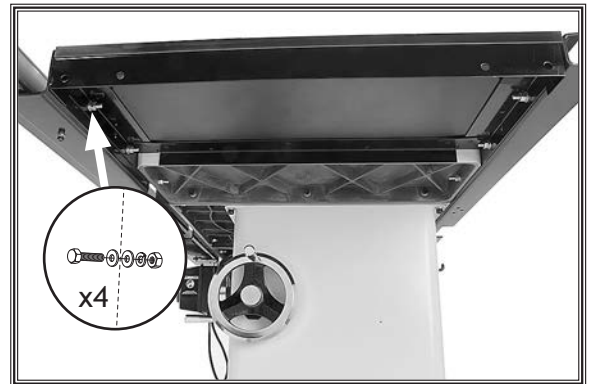

Figure 23. Model W1819 extension table installed.
1. Install the extension table between the front and rear rails with the four M8-1.25 x 40 hex bolts, eight 8mm flat washers, four 8mm lock washers, and four M8-1.25 hex nuts (see **Figure 23**).